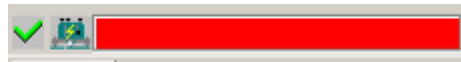

Fig. 3-4
- the feedback is switched on and Z-direction piezo scanner is protracted to the maximum. The protraction of Z-direction scanner is illustrated by the indicator of scanner protraction, located in the left lower field of the program main window (Fig. 3-4). The degree of scanner protraction is shown by the length of the color bar;